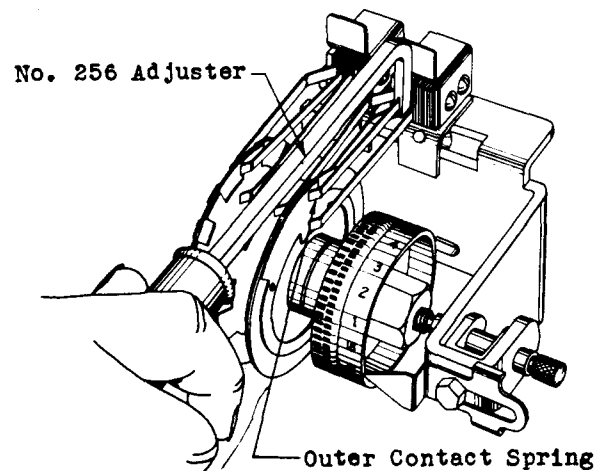
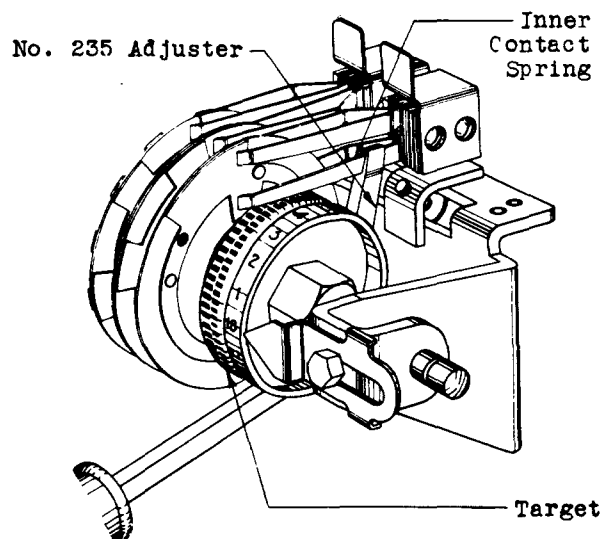

Fig. 11 – Method of Using the No. 256 Adjuster in Adjusting Outer Contact Springs
Fig. 12 – Method of Using the No. 235 Adjuster in Adjusting Inner Contact Springs
(1) If the contact spring pressure is not within the specified limits, readjust the spring as follows: Rotate the cam shaft assembly until the spring or springs at fault rest on the metal part of the cam.
(2) Readjust the outer springs with the No. 256 adjuster applied as shown in Fig. 11 and the inner springs with the No. 235 adjuster applied as shown in Fig. 12. Adjust close to the point where the spring leaves the assembly clamping plates and insulators.
(4) To check for part (c) of the requirement on an outer contact spring, apply the KS-6320 orange stick back of the slot in the spring, push the spring away from the cam and observe whether the two prongs leave the cam at approximately the same time. In checking the requirement on an inner spring the No. 235 adjuster may be used to push the spring away from the cam. To adjust an outer contact spring use the No. 256 adjuster and to adjust an inner contact spring use the No. 235 adjuster as indicated in Figs. 11 or 12,
No. 256 adjuster and the inner spring with the No. 235 adjuster taking care not to put an excessive crimp in the springs. Apply these adjusters as shown in Figs. 11 and 12.